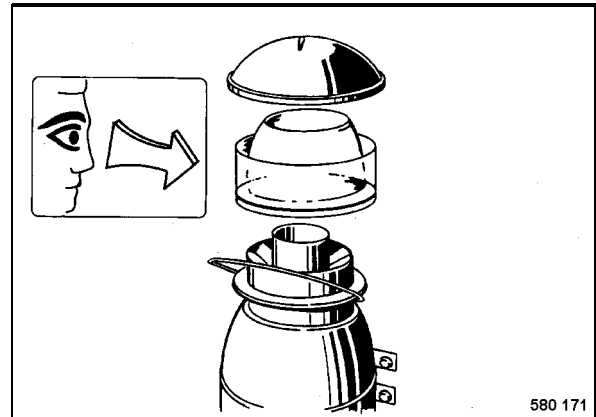

Fig. 76
- If the dust reaches the mark loosen the clamp (Fig. 76), take the cover off and clean the bowl.